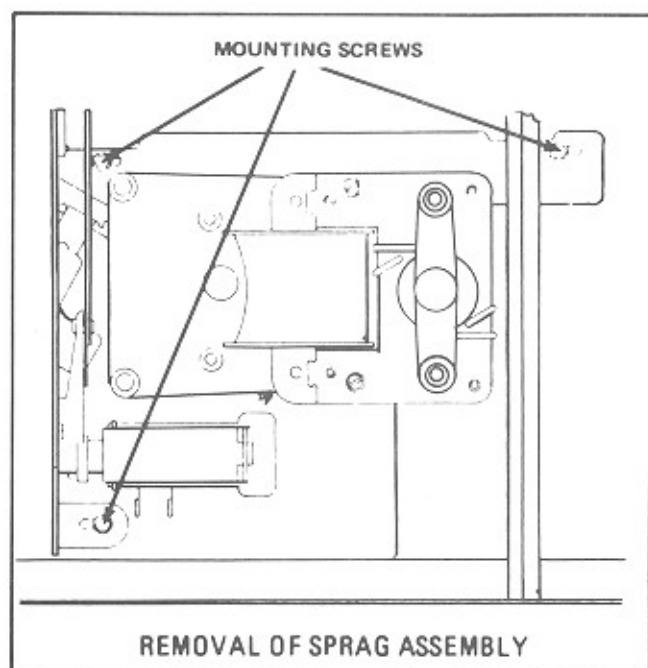

Figure 3-9. Sprag Assembly Removal
1. To remove sprag assembly, disconnect wires to the solenoid and motor, remove the three mounting screws and slide the assembly out of the right side of the mechanism (See Figure 3-9.).